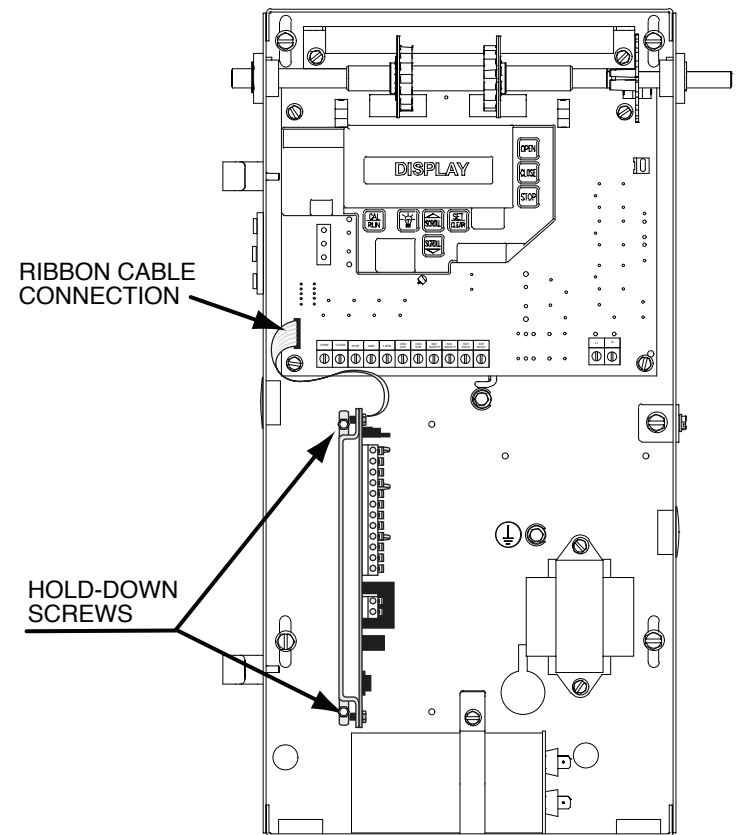

Fig.3A Install TCM
3. Install Timer Close Module. (**Fig. 3A**)